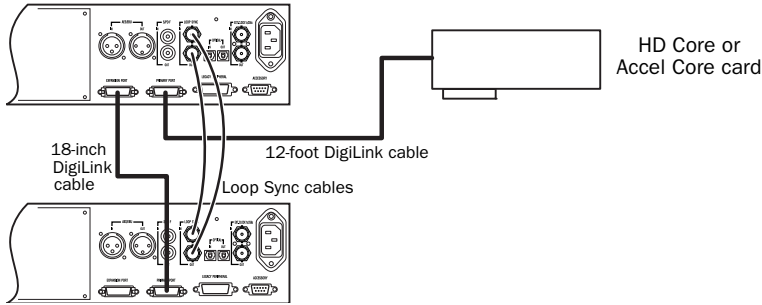

Figure 4. Two 96 I/Os, 32-channel
- 2 Connect a secondary Pro Tools|HD audio interface to the Expansion port on the primary audio interface using the 18-inch DigiLink cable (included with the audio interface). See Figure 4 on page 9.